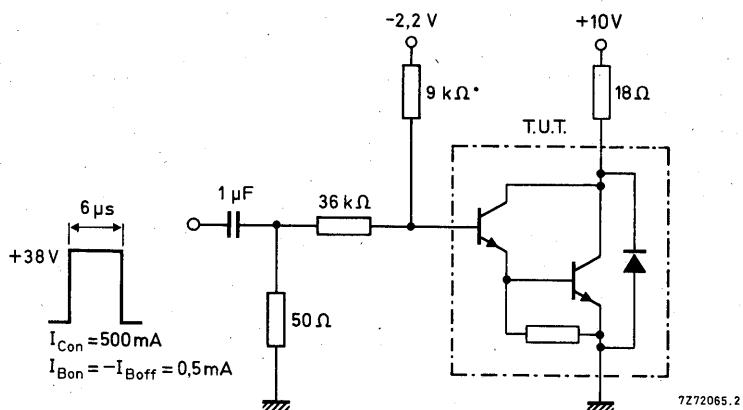
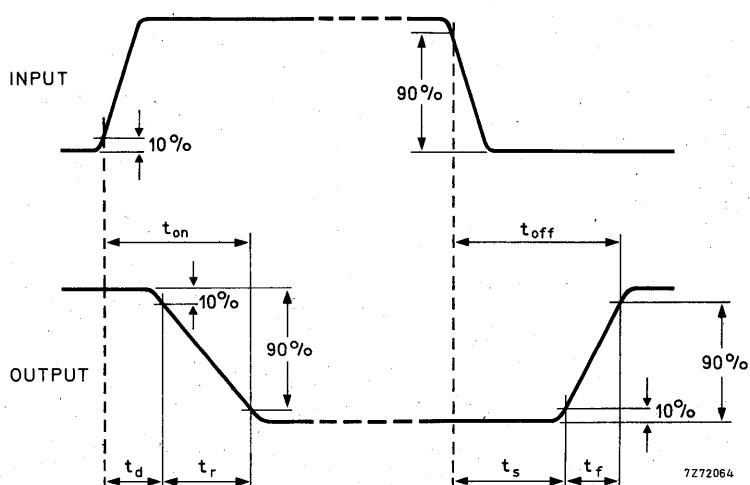

Fig. 3 Test circuit for 500 mA switching.
Fig. 4 Switching waveforms.
**CHARACTERISTICS** $T_j = 25^\circ\text{C}$  unless otherwise specified**Collector cut-off current** $V_{BE} = 0; V_{CE} = 45 \text{ V}$ BDX42       $I_{CES}$  < 10  $\mu\text{A}$  $V_{BE} = 0; V_{CE} = 60 \text{ V}$ BDX43       $I_{CES}$  < 10  $\mu\text{A}$  $V_{BE} = 0; V_{CE} = 80 \text{ V}$ BDX44       $I_{CES}$  < 10  $\mu\text{A}$ **Emitter cut-off current** $I_C = 0; V_{EB} = 4 \text{ V}$  $I_{EBO}$  < 10  $\mu\text{A}$ **D.C. current gain** $I_C = 150 \text{ mA}; V_{CE} = 10 \text{ V}$  $h_{FE}$  > 1000 $I_C = 500 \text{ mA}; V_{CE} = 10 \text{ V}$  $h_{FE}$  > 2000**Collector-emitter saturation voltage** $I_C = 500 \text{ mA}; I_B = 0,5 \text{ mA}$  $V_{CEsat}$  < 1,3  $\text{V}$  $I_C = 1 \text{ A}; I_B = 1 \text{ mA}$ BDX43       $V_{CEsat}$  < 1,6  $\text{V}$  $I_C = 1 \text{ A}; I_B = 4 \text{ mA}$ BDX42, 44       $V_{CEsat}$  < 1,6  $\text{V}$  $I_C = 500 \text{ mA}; I_B = 0,5 \text{ mA}; T_j = 150^\circ\text{C}$  $V_{CEsat}$  < 1,3  $\text{V}$  $I_C = 1 \text{ A}; I_B = 1 \text{ mA}; T_j = 150^\circ\text{C}$ BDX43       $V_{CEsat}$  < 1,8  $\text{V}$  $I_C = 1 \text{ A}; I_B = 4 \text{ mA}; T_j = 150^\circ\text{C}$ BDX42, 44       $V_{CEsat}$  < 1,6  $\text{V}$ **Base-emitter saturation voltage** $I_C = 500 \text{ mA}; I_B = 0,5 \text{ mA}$  $V_{BEsat}$  < 1,9  $\text{V}$  $I_C = 1 \text{ A}; I_B = 1 \text{ mA}$ BDX43       $V_{BEsat}$  < 2,2  $\text{V}$  $I_C = 1 \text{ A}; I_B = 4 \text{ mA}$ BDX42, 44       $V_{BEsat}$  < 2,2  $\text{V}$ **Small signal current gain** $I_C = 500 \text{ mA}; V_{CE} = 5 \text{ V}; f = 35 \text{ MHz}$  $h_{fe}$  typ. 10**Switching times (see also Fig. 3 and Fig. 4)** $I_C = 500 \text{ mA}; I_{Bon} = -I_{Boff} = 0,5 \text{ mA}$